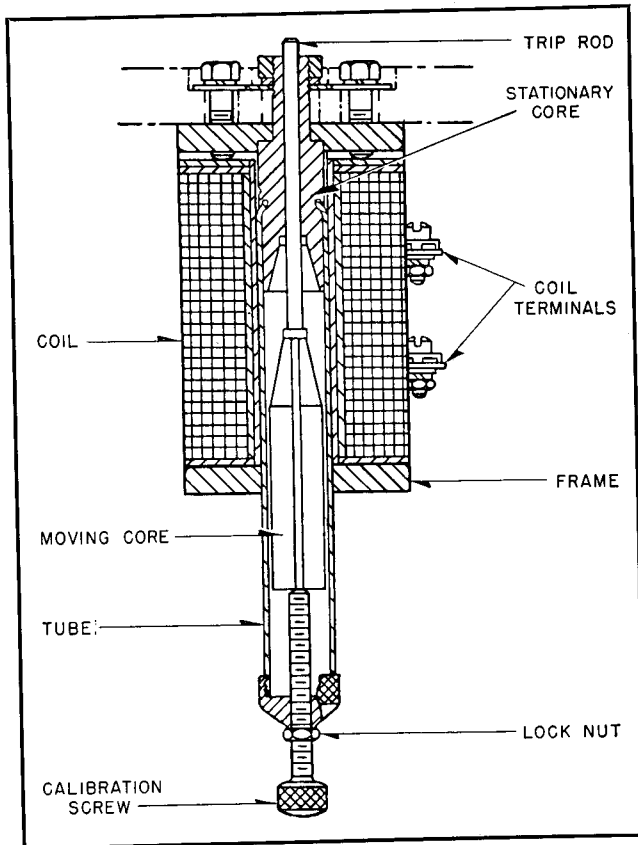

FIG. 8. Shunt Trip and 5-Ampere Transformer Trip
**5-Ampere Transformer or Overload Trip.** (See Fig. 8.) Calibrated for tripping on currents of from 5 to 9 amperes. It is set to pick up and trip at 5 amperes. The setting is changed by raising or lowering the moving core by means of the screw which extends from the lower end of the tube cap. The screw is secured by a lock nut which should be loosened before adjusting and retightened after the setting is changed.